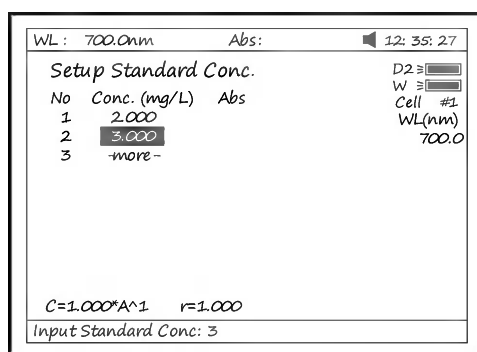
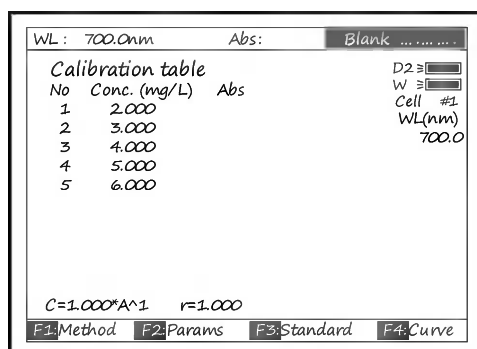

Fig 31
Fig 32
- 3.3.1 Enter standard concentrations of samples by pressing the Numeric keypad followed by **【ENTER】**. Press **【^】** or **【v】** to modify the inputted data (Fig31). Press **【ESC/STOP】** to finish inputting and to exit (Fig 32).
- 3.3.2 Push the blank cuvette into the Reference Light Path and Main Light Path, press **【0Abs/%100T】**, the instrument will step to the wavelength and blank. See Fig 32.